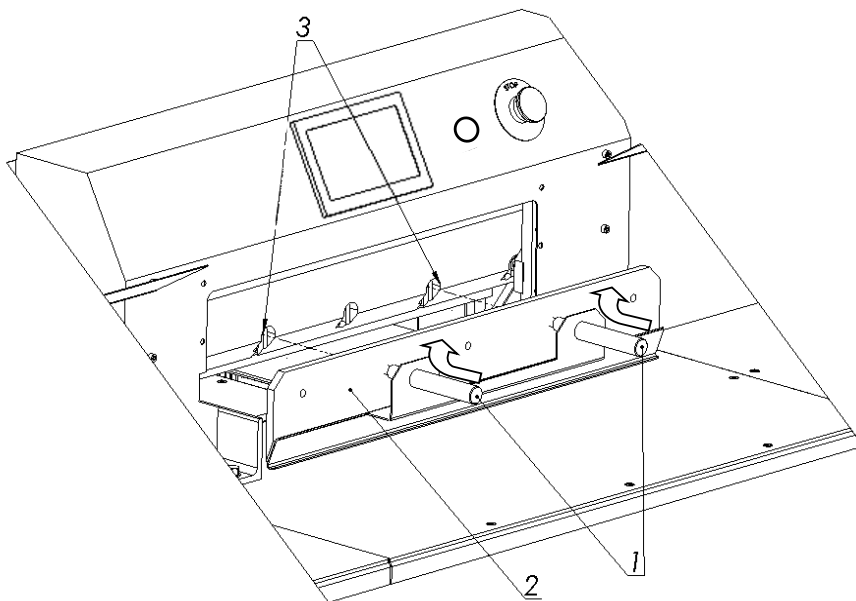

Figure 30.
8.1.2.3. Holding the transport handles 1, insert the knife 2 into the cutter so that the transport handles screwed into the knife hit the cutouts in the cutter bar 3. (fig.30)